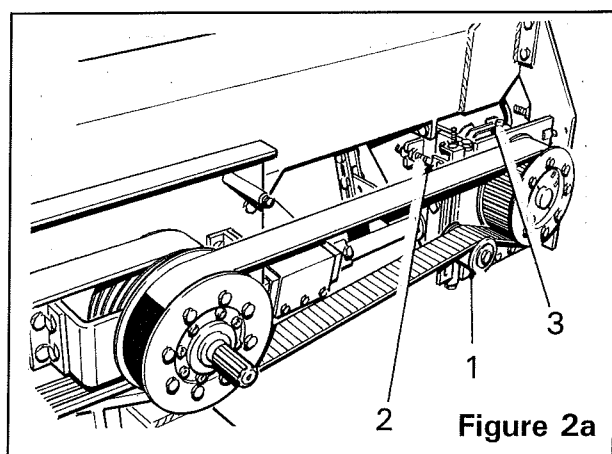

Figure 2a
The toothed belt drive from the main input pulley to the gearbox/pump pulley must be maintained at the correct tension and alignment. The belt is tensioned by the jockey roller adjuster (*item 1, figure 2a*). If necessary, the belt can be tracked using the two-way adjustment provided by the three adjusters (*item 9, figure 1a & item 2, figure 2a*) on the gearbox mounting.
The gearbox (*item 3, figure 2a*) should be checked occasionally and topped up with EP 90 Gear Oil.